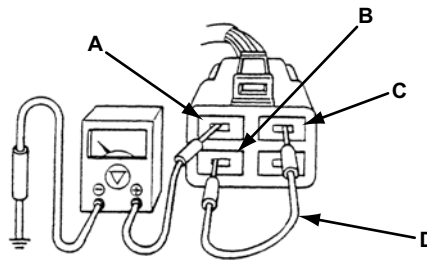

Figure 12-27 Analog voltmeter and terminal on 1988-1992 626/MX6
- Connect an analog voltmeter to FBS (G/R) (Figure 12-27).